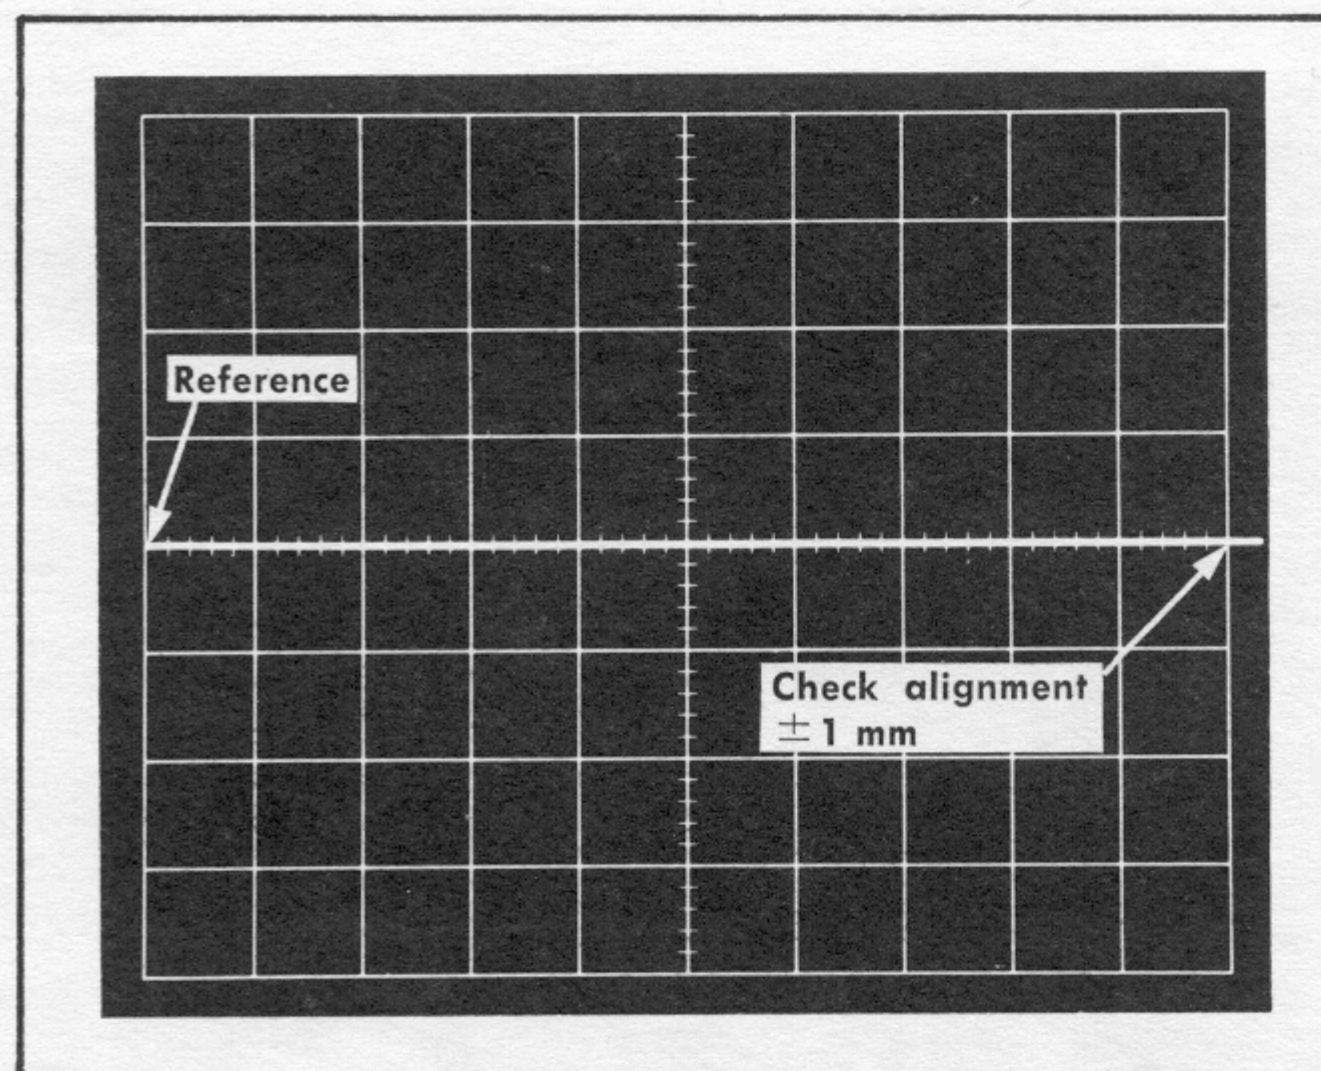

Fig. 6-6. Display of correct CRT trace-to-graticule alignment.
- c. Check—Trace end at the right edge of the graticule is not more than 1 mm above or below the center horizontal graticule line, see Fig. 6-6. If trace alignment is within tolerance, proceed to step 10.